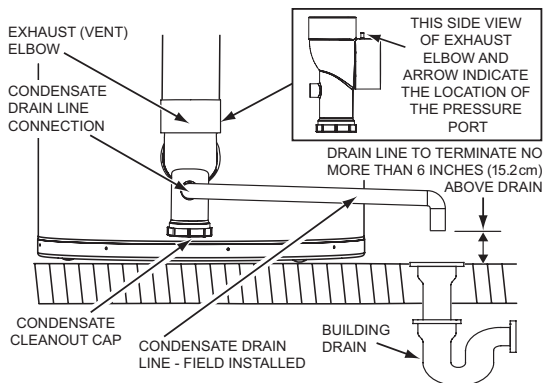

Figure 11
Condensate drains from the water heater at the exhaust elbow located at the bottom. The field installed condensate drain line must not be elevated above the condensate drain connection on the condensate trap, see Figure 11. If the condensate does not drain properly it will build up in the exhaust (vent) elbow. This will restrict the flow of flue gases and cause the Blocked Exhaust pressure switch to open its contacts. The control system monitors all pressure switches, if the Blocked Exhaust Switch contacts are open the control system will lock out and disable heating operation. The "Blocked Exhaust" Fault message will be displayed on the control system's LCD.
DO NOT remove the factory installed exhaust/condensate elbow for any reason, see Figure 11. The water heater's vent pipe is under a slight positive pressure while unit is in operation. The water trap inside of the exhaust/condensate elbow prevents flue gases from escaping into the installed space.
3. Terminate the condensate drain piping with an elbow above the drain. Ensure that any discharge will exit the condensate drain line no more than 6 inches (15.2 cm) above a suitable building drain, or external to the building, see Figure 11.
4. Ensure the condensate drain line is not elevated above the condensate drain connection on the Exhaust/Condensate Elbow, see Figure 11.